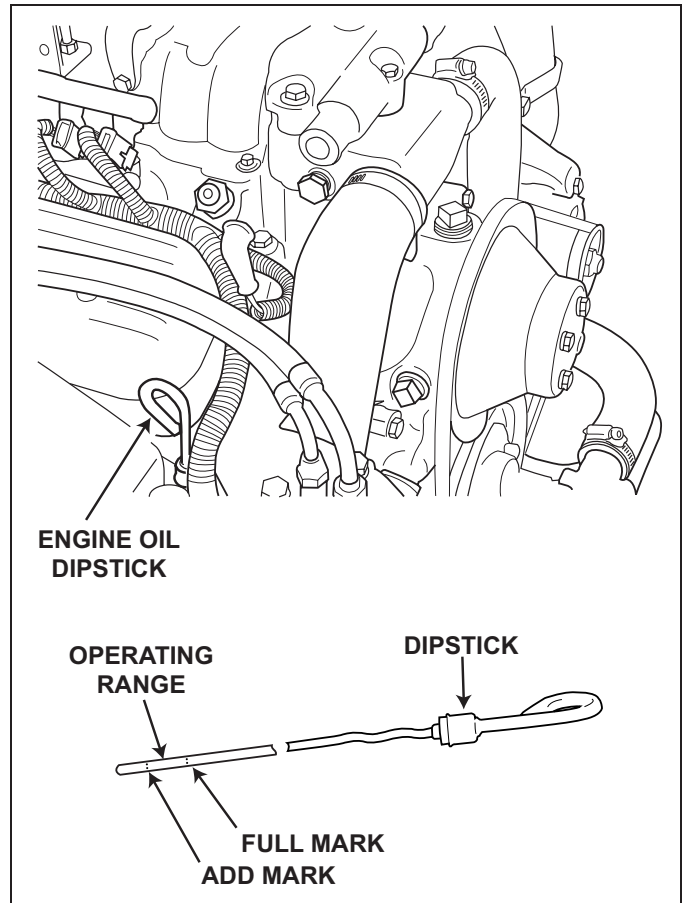

Figure 11-1 Engine Oil Dipstick (Typical)
3. Remove the dipstick and observe the oil level. The oil level must be between the "FULL" and "ADD" marks. If the oil level is below the "ADD" mark, add specified oil to bring the level up to, but not over, the "FULL" mark on the dipstick. (Figure 11-1).